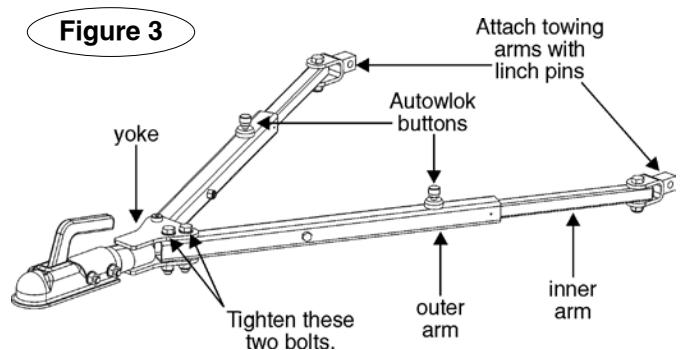

Figure 3
2. Holding both of the A-frame arms together, attach either arm to its corresponding towing arm with the included linch pin (Figure 3).
Both Autowloks (Figure 3) will engage – the buttons will pop up.
5. Using a torque wrench, tighten the two bolts at the yoke (Figure 3) to 71 ft./lbs. (96 N-M).
Clean all moving components, paying special attention to the inner arms and the locking mechanisms. Spray a liberal amount of cleaner on the inner arms and into the Autowlok buttons (Figure 3). Then, spray cleaner into the hole under each Autowlok button. Push and release each button, to work the cleaner into the locking mechanism.